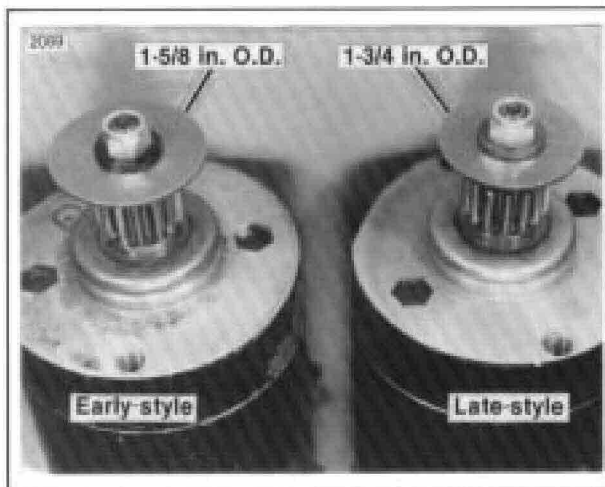

Figure 4. Oil Separator Washer Installation
4. See Figure 4. Remove generator armature gear shaft nut, gear shaft washer, and early-style oil separator washer from kit, install late-style oil separator washer from kit, gear shaft washer, and gear shaft nut on armature shaft. Tighten armature gear shaft nut to 6 - 8 ft-lbs torque.